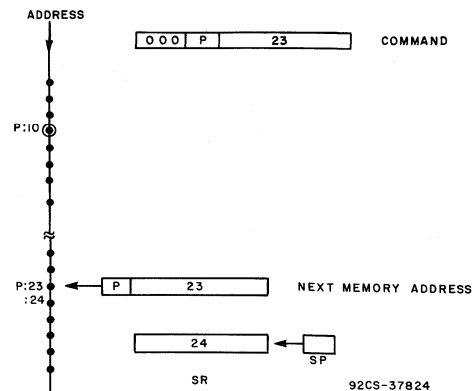

Fig. 3 - Opcode 0 - unconditional branch.
Opcode 0, Fig. 3, is an unconditional branch. The lower ten bits are the address of the next microinstruction. The lower 8-bit portion is incremented and loaded into the currently active stack register (SR).